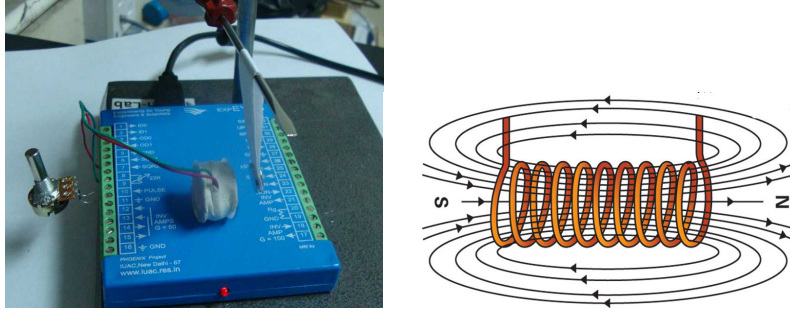

FIGURE 3.4 – (a) Current carrying solenoid repelling a permanent magnet.
- Hang the pendulum near the solenoid as shown in figure3.4
The magnetic field of a solenoid coil is shown in figure 3.4. The direction of field depends on the direction of the current.